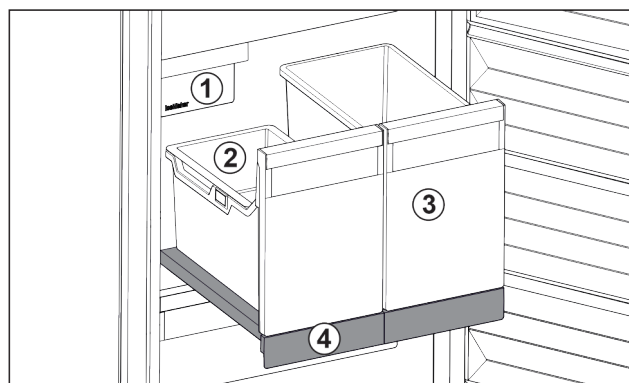

Fig. 17 Pull-out board with IceTower
On the pull-out board are two tall containers (IceTower). Ice cubes from the IceMaker are collected and stored in the container Fig. 17 (2). The container Fig. 17 (3) is suitable for storing tall foodstuffs or beverages such as pizzas or alcoholic drinks.